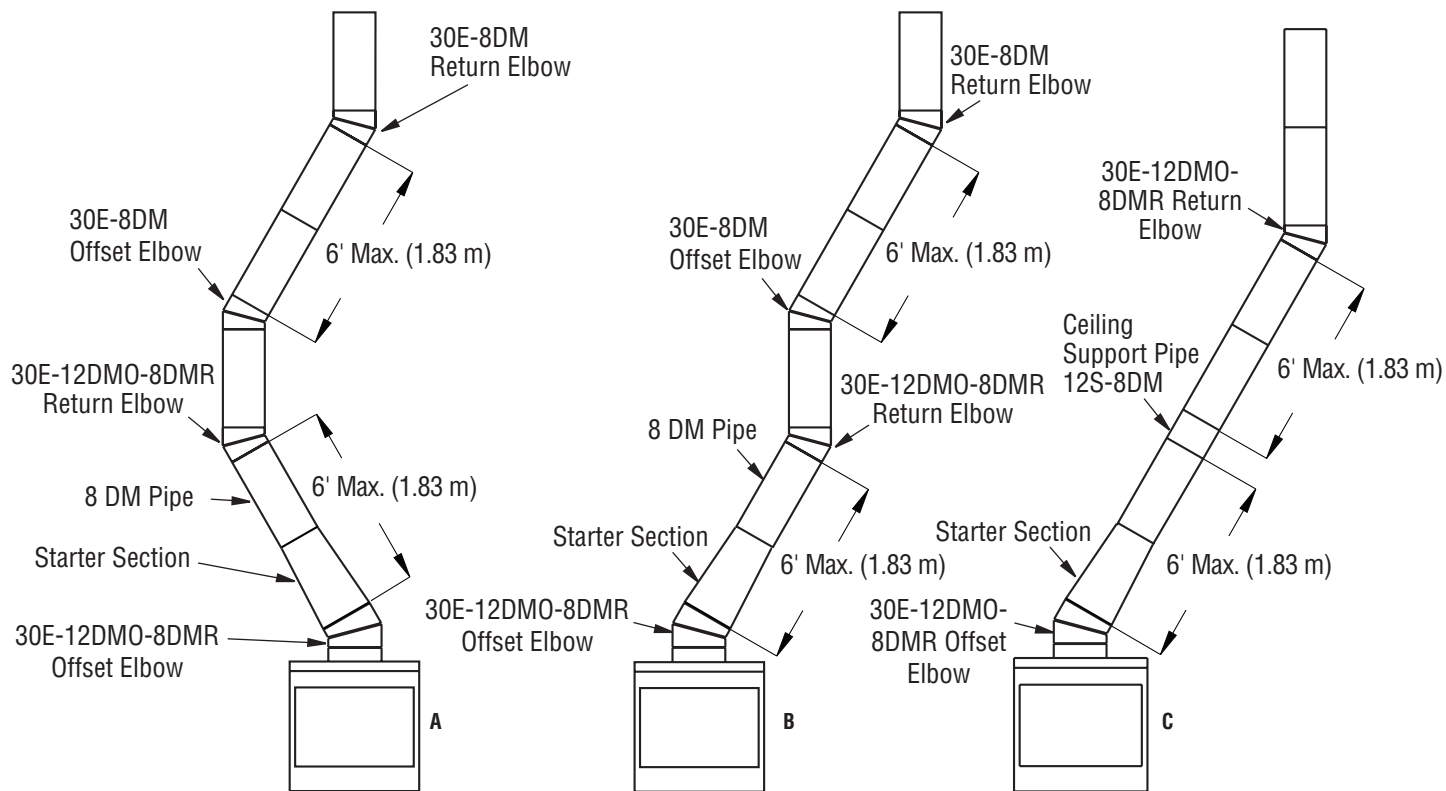

Figure 10 - Typical Offset Installation
3. Maximum length of pipe between supports (return elbow or 12S-8DM) is 6' of angle run. Maximum of two 6' angle run sections per chimney system (see Figure 10, page 9).